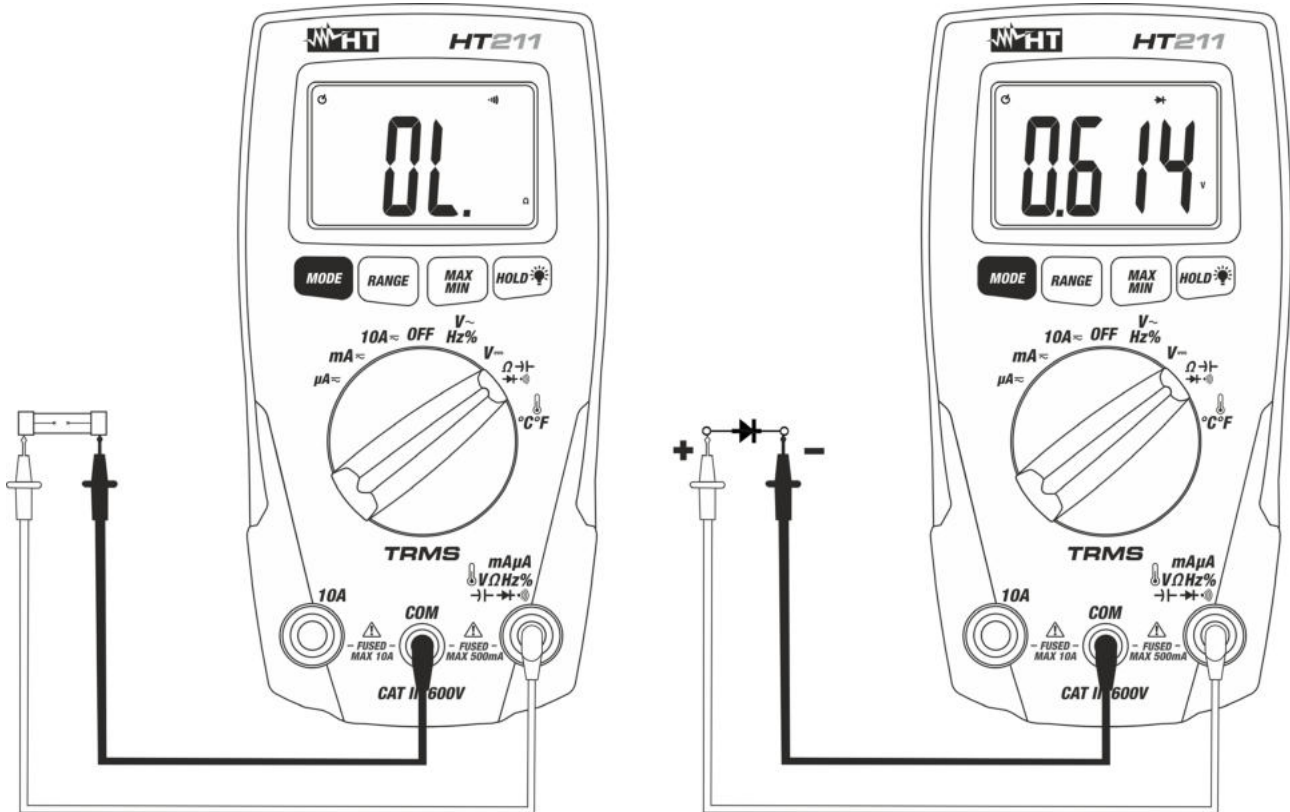

Fig. 6: Using the instrument for Diode test and Continuity test
4. Connect the test leads to the diode under test observing the proper polarities (see Fig. 6 – right part). The threshold voltage value under this situation is displayed
7. Press the **MODE** key until the symbol “ \rightarrow ”) is shown at display to meaning the continuity test and connect the meter as resistance measurement (Fig. 6 – left part). Buzzer emits sound if the measured resistance value is $<50\Omega$